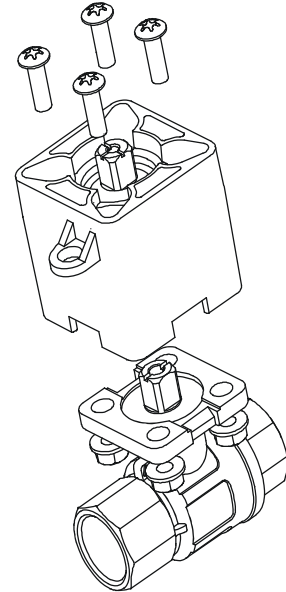

Figure 9: Installing the Barrier
3. Mount the thermal barrier onto the valve using the four included M5x16 mm machine screws and four M5 flange nuts. Tighten the screws to a recommended torque of 21 to 25 lb-in. (2.4 to 2.8 N-m) (Figure 9).